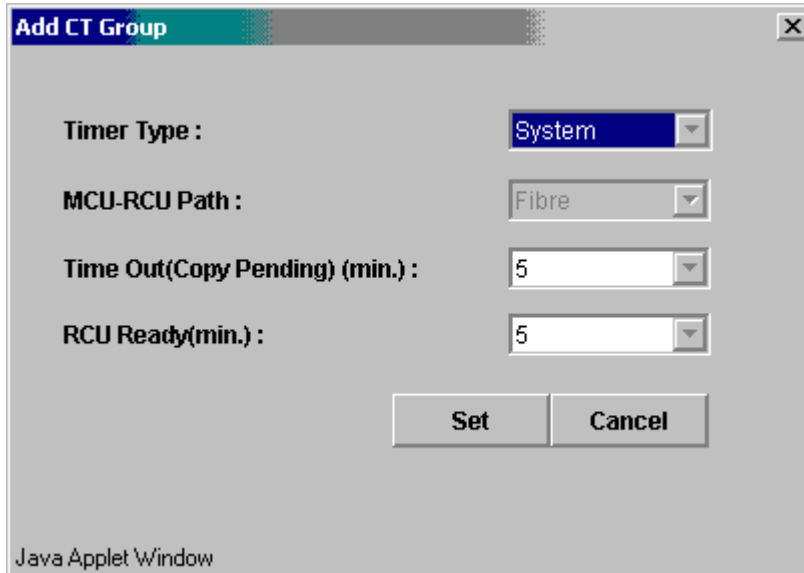

Figure 4.29 Add CT Group Panel
The Add CT Group panel (see Figure 4.29) allows you to add consistency groups and select the options for the new groups. To open the Add CT Group panel, select the **Asynchronous Operations** tab, select **Display All** or **Not Used** in the outline view, select the group(s) to be added, right-click on the group(s), select **CT Group Operation**, and select **Add CT Group**.
4. Right-click on the selected group(s), select **CT Group Operation**, and then select **Add CT Group** to open the Add CT Group panel (refer to Figure 4.29).